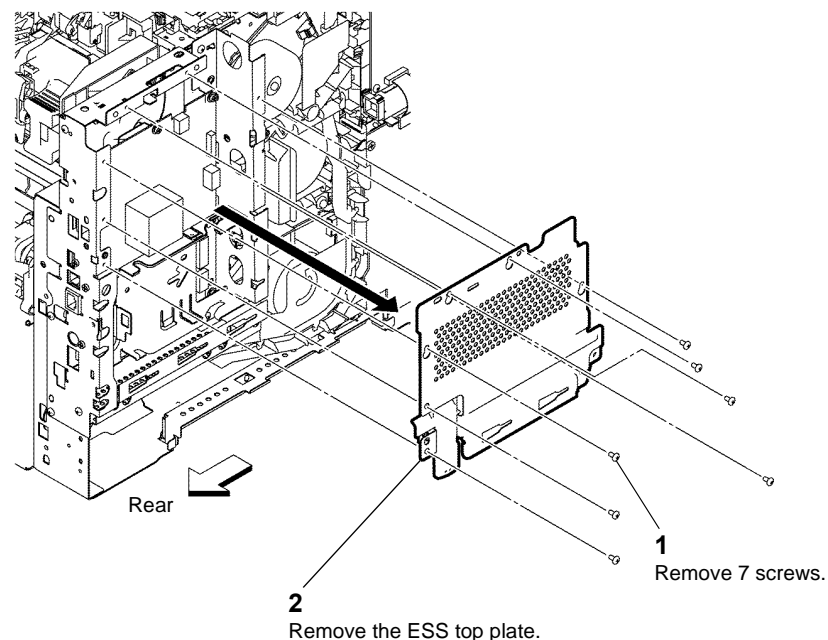

Figure 2 ESS top plate
2. Remove the ESS top plate, Figure 2.